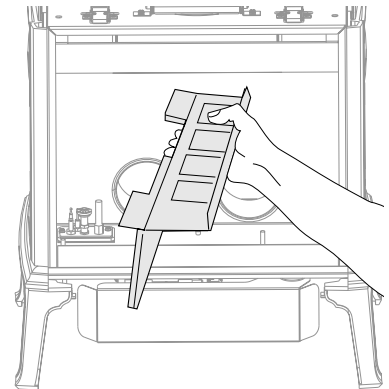

Figure 18.
2. Remove the stove Top Plate (3).
5. Remove the burner skirt. Using one hand, lift from under the rear lip and let the skirt rotate vertically. Then rotate counterclockwise to clear the firebox opening as shown in fig. 18.